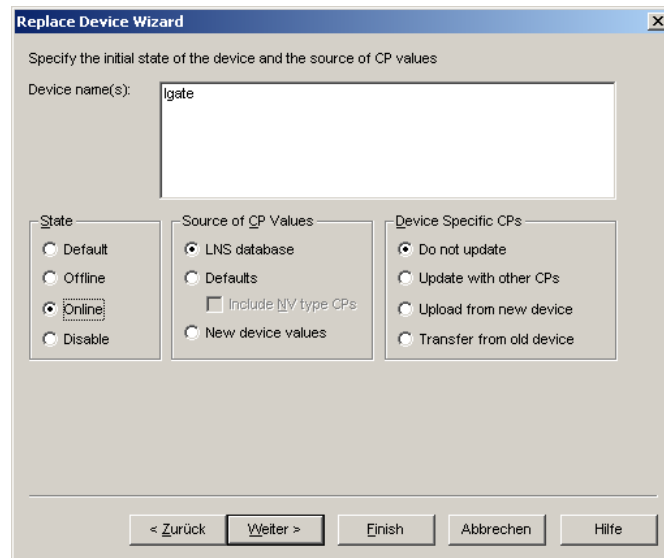

Figure 68: Select online state.
5. Then select **Online** as shown in Figure 68 and click **Next**.